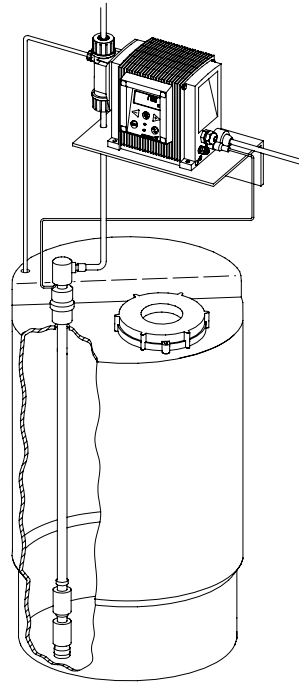

**Fig. 1** Position of drain hole
- Make sure that the drain hole in the dosing head points downwards, see fig. 1.